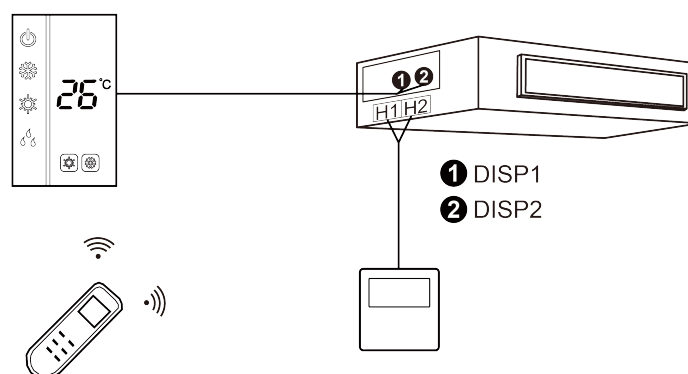

Fig.5.4.2
- 2) Wired controller and receiving light board can be installed at the same time. When operating through a remote controller, both wired controller and the receiving light board can receive the signals, as shown in Fig.5.4.2.